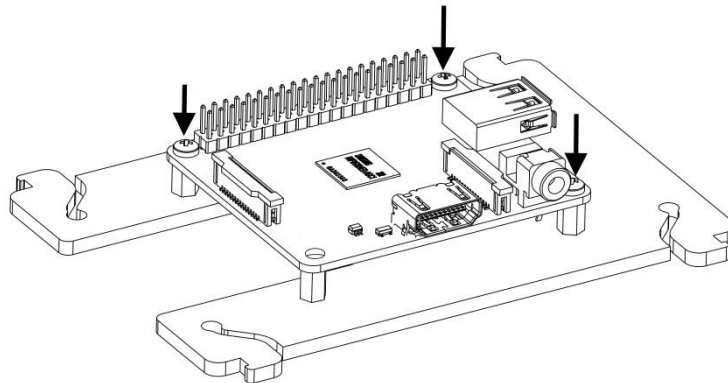

Figure 3
7) Fix the Raspberry Pi to the assembly onto the base with 3x M2.5x6 screws, as shown in *Figure 3*, ensuring that the Raspberry Pi is orientated correctly (Micro SD card connector to the gap in the base.)